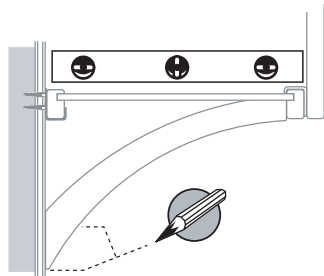

FIG. 8.0
- Replace bottom (E) shelf
- Secure bottom (E) shelf onto (D) Vertical Support Bar Vertical Clips and L-Hooks using #4 3/4" screws.
- Select Angle bracket for placement at (F) location (refer to selected configuration layout for location).
- Place angle bracket square with shelf underside and back wall. Level shelf (front to back) then mark hole location and mark line at the bottom of Angle Bracket against wall (Fig. 8.0).